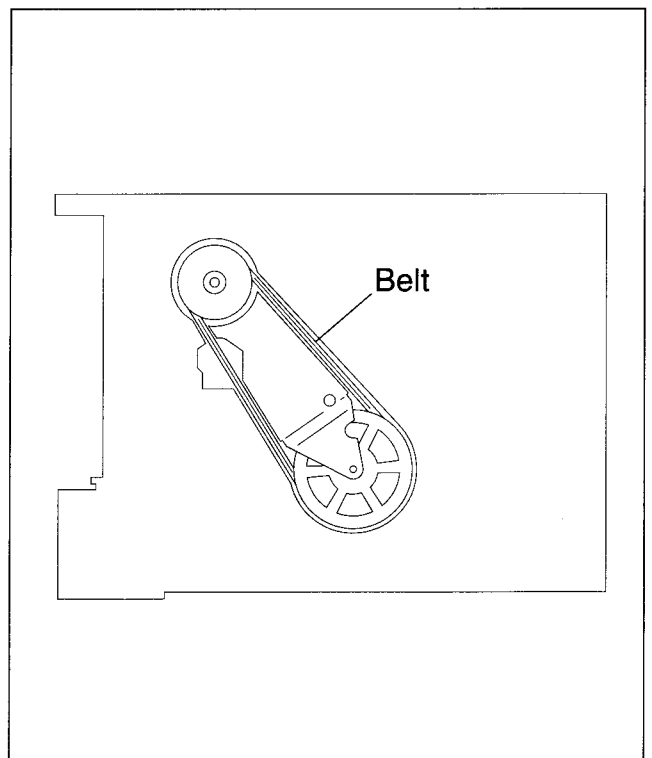

Fig.1-5-10
- (1) Take out 1 slit washer, then remove the lever assembly.
- (2) Disengage the belt (capstan motor) from bottom of mechanism assembly first as indicated in Fig.1-5-10.